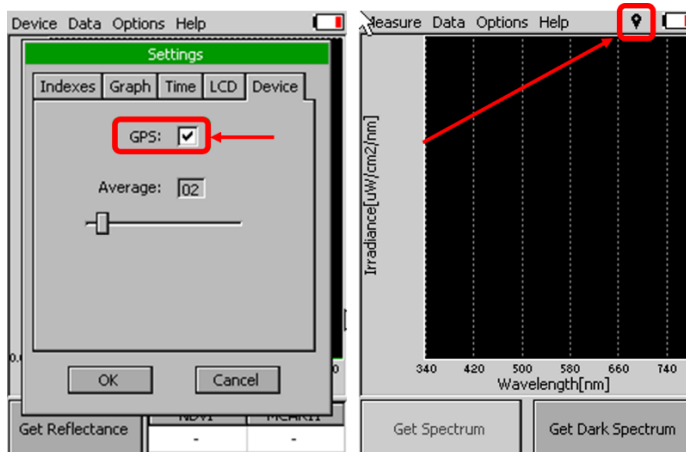

Fig. 42 A) Activation of GPS B) GPS active.
- Click on the check box for GPS (Fig. 42-A)
- Wait until the GPS position is found. The GPS module is ready when the icon of the position flag, in upper menu, stops flashing (Fig. 42-B).